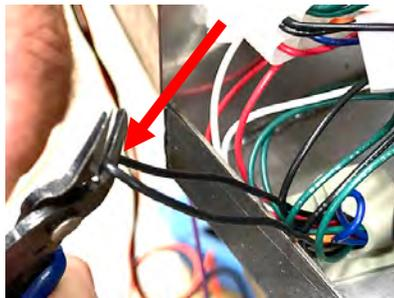

Figure 7
9. Snip one of the purple or black wires in previous step about halfway between the 6-pin connector and the power supply (see Figure 7).